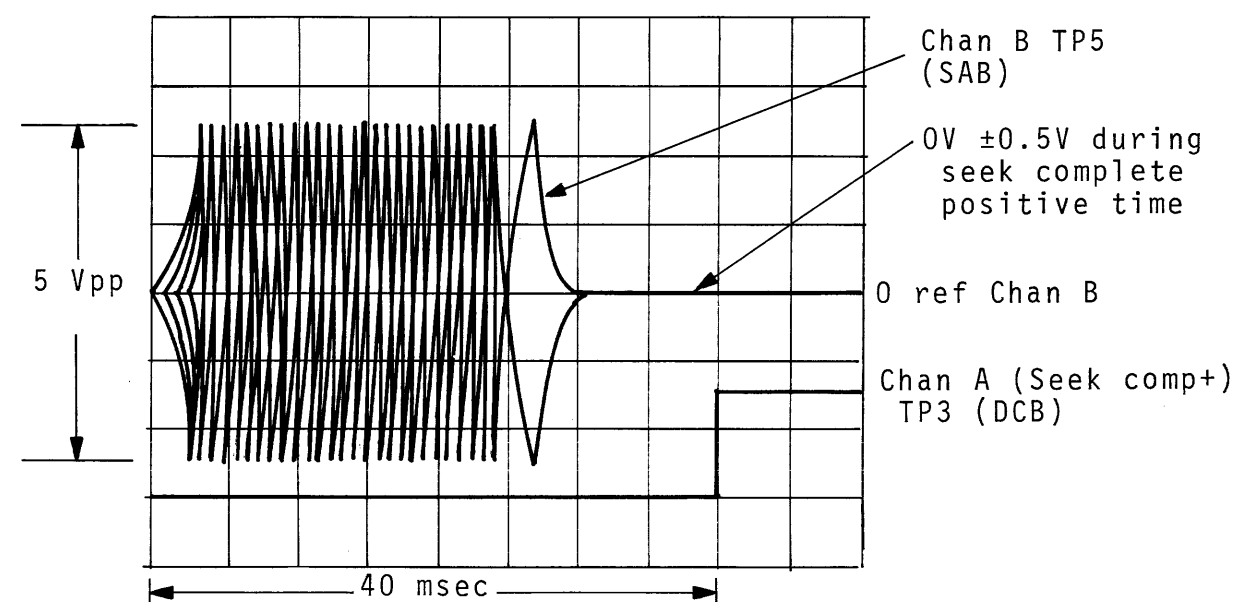

Figure 7-13. Seek Time Adjustment
- (h) NOTE: When making this adjustment, TP5 on the SAB should not look erratic. TP5 should be smooth and even. If this is not the case, the servo is breaking up. Refer to Figure 7-13.
- (c) Set up scope as per Figure 7-13.